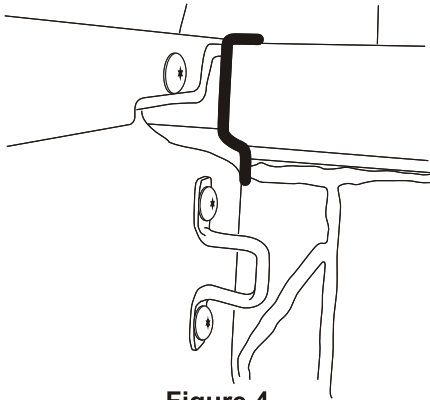

Figure 4
6. Apply a bead of non-acidic silicone along the top joint between the front and the sides of the tray. Continue to run the silicone down the joints until the edge of the tray has been filled. Refer to figure 4.